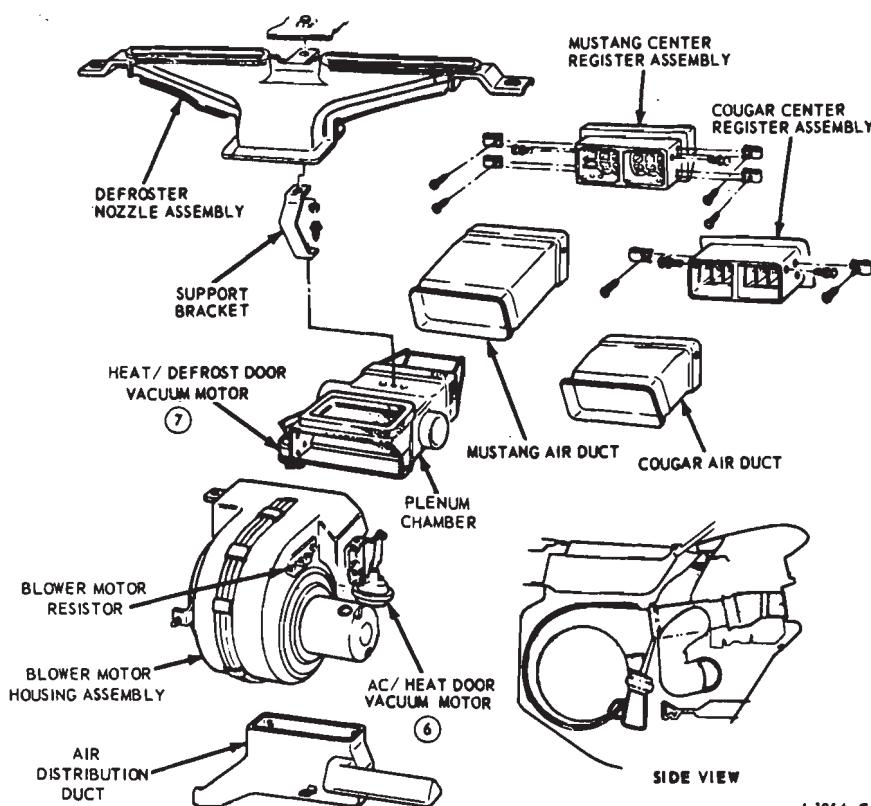

FIG. 49—Heater-Air Conditioner—Mustang and Cougar
7. Disconnect the heater hoses from the heater core. Remove the upper and lower seal retainers and remove the hose seal (Fig. 49).